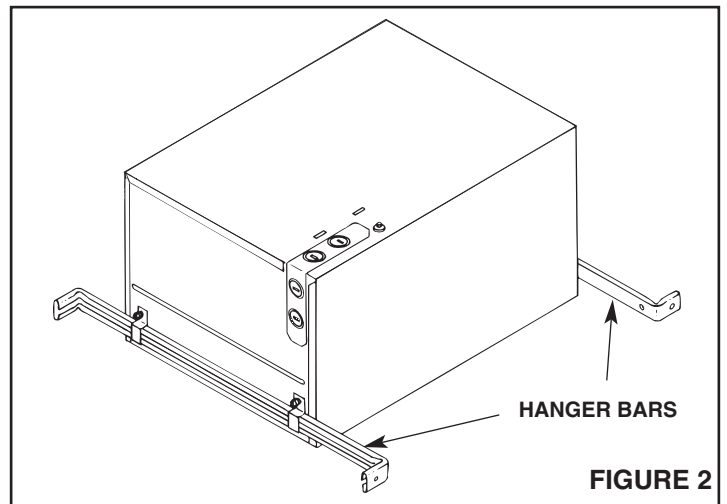

FIGURE 2
2. **Refer to Figure 2.** Insert hanger bars into brackets.